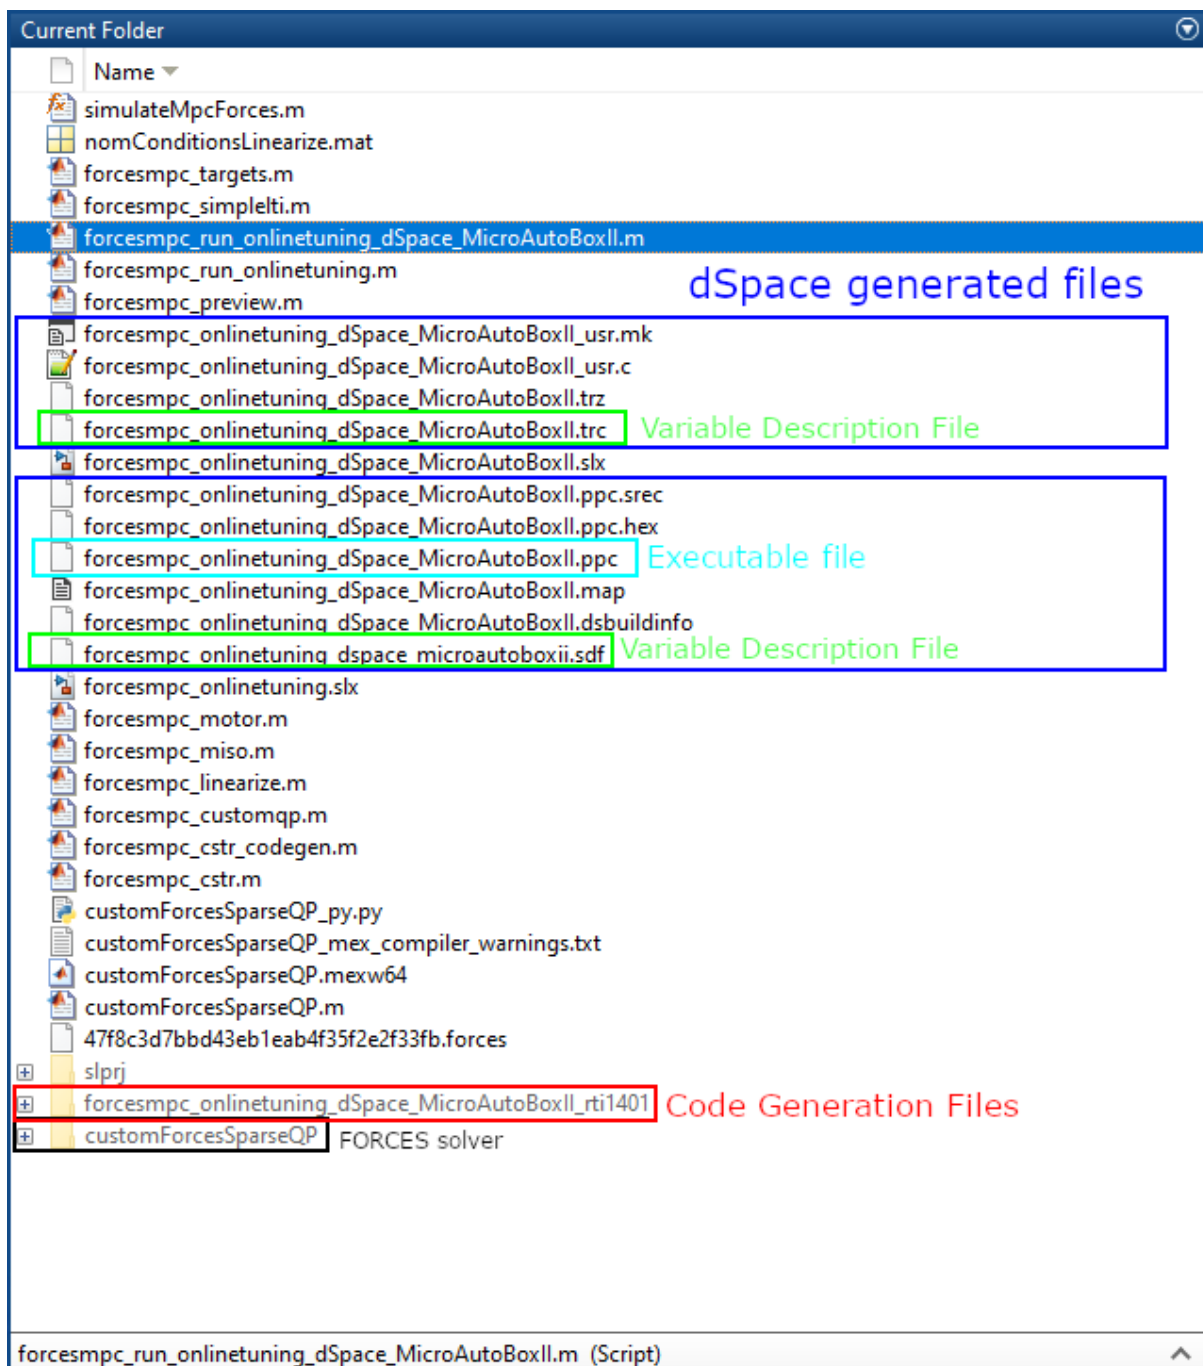

Figure 6.7: The generated files from the Simulink Code Generation
- 5) After code generation the dspace compiler (Microtec PowerPC) generated files to use to run your model on the MicroAutoBox II (see Figure 6.7).